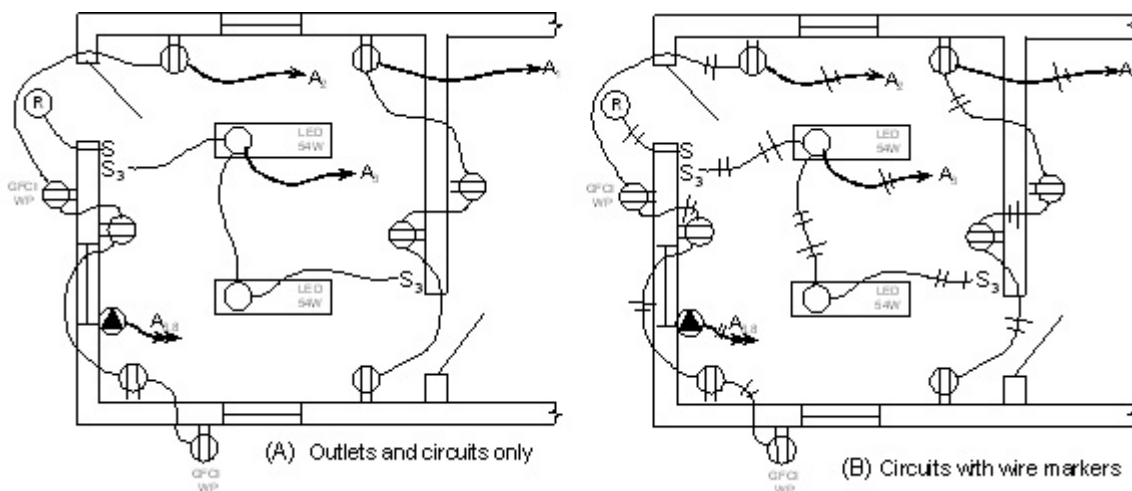

**Figure 251.1** Typical architectural wall construction symbols.
**Architectural Symbols:** Standard architectural symbols have been developed to communicate construction details to the various construction trades that will be at a site. A key will be provided to indicate the type of construction that will be used in a building. *Figure 251.1* is a typical key used to indicate the common architectural symbols that will be shown on blueprints or plans. It is necessary to know the type of wall, ceiling, and floor construction in order to plan the installation of the wiring. Window, door, fireplace, and appliance placement must be known to insure the proper placement and routing of electrical, plumbing and HVAC equipment.